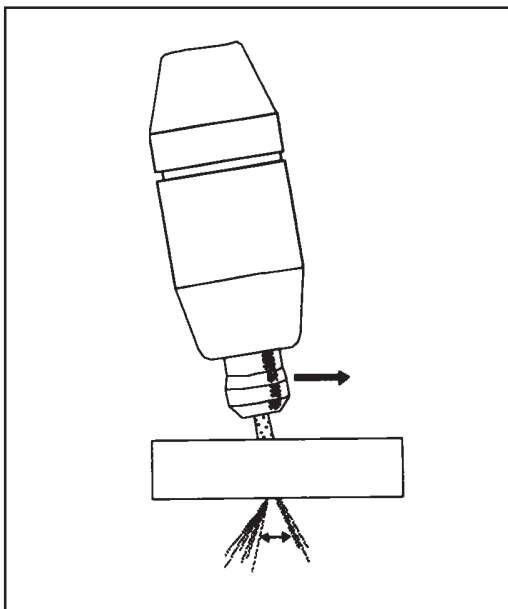

Figure 3-2. Recommended Torch Angle of 5° to 15°
- After starting the cut, the torch should be maintained at a 5-15° forward angle (Figure 3-2). This angle is especially useful in helping to create a "drop" cut. When not using the standoff guide, the nozzle should be held approximately 1/8 inch from the work.